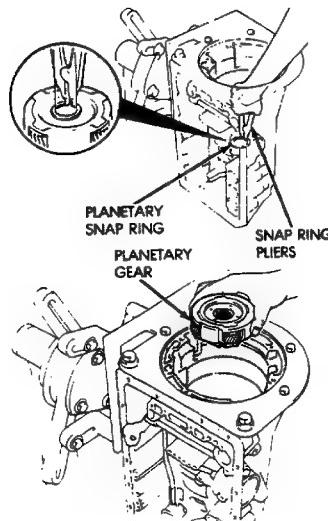

Fig. 37 Removing Planetary Snap Ring And Gear
(46) Remove planetary snap ring and remove planetary gear (Fig. 37).